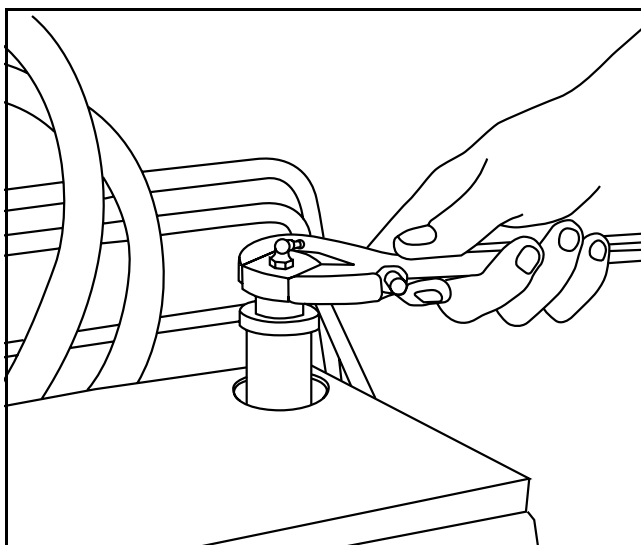

Figure 6 - 73 Remove tool and bushing
- 4) Remove the bushing removal tool and the bushing. (Figure 6 - 73)